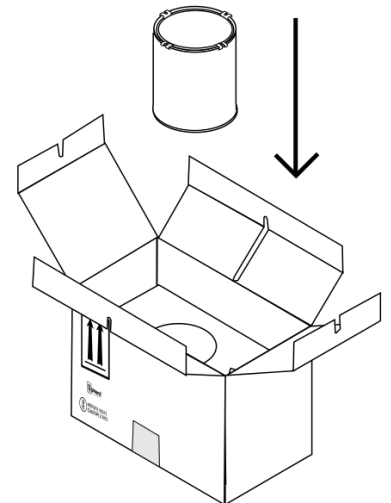

Figure 4
6. Place can into the insert. (See Figure 4)